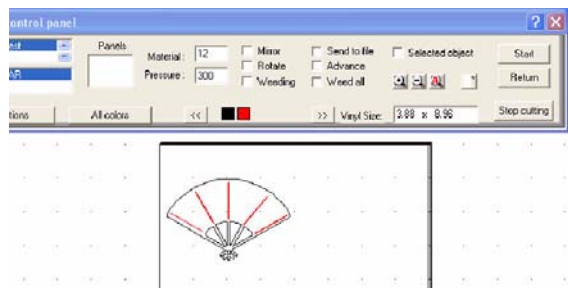

Figure 176
- 2 Reduce the pressure setting to a light pressure. See figure 176.